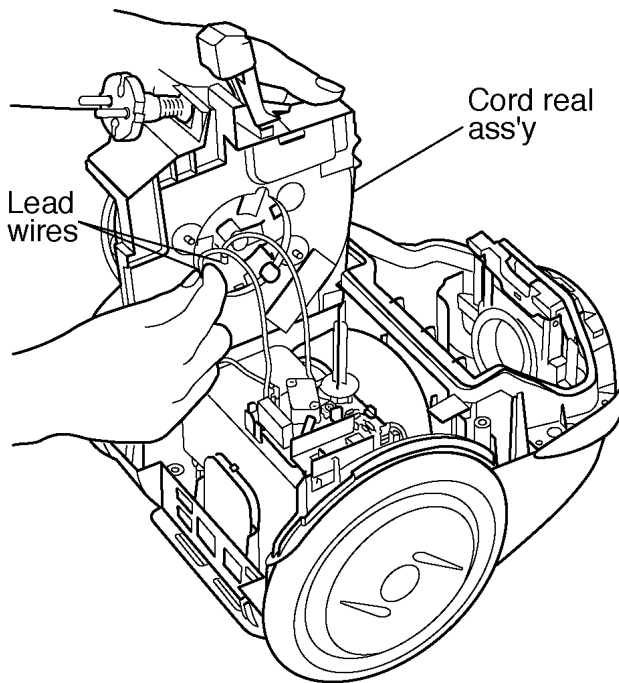

Fig.4
4. Take out cord reel ass'y and remove the lead wires (provided with quick-connect terminal) from the contact spring tabs. (Fig. 4)